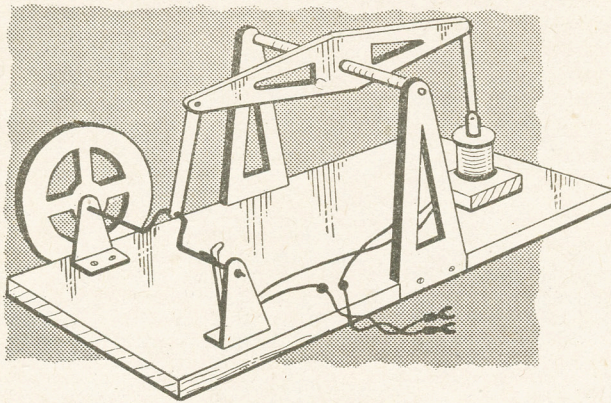

Fig. 2—Side view of the engine
The beam is cut to the shape shown in Fig. 2 and is about 6ins. long. It should be made from  $\frac{1}{4}$ in. thick wood so that a vertical saw-cut is possible at each end, where the connecting links will be pivoted, as shown at (A) in Fig. 3. These links should be cut from thin metal and have a small hole drilled near each end.